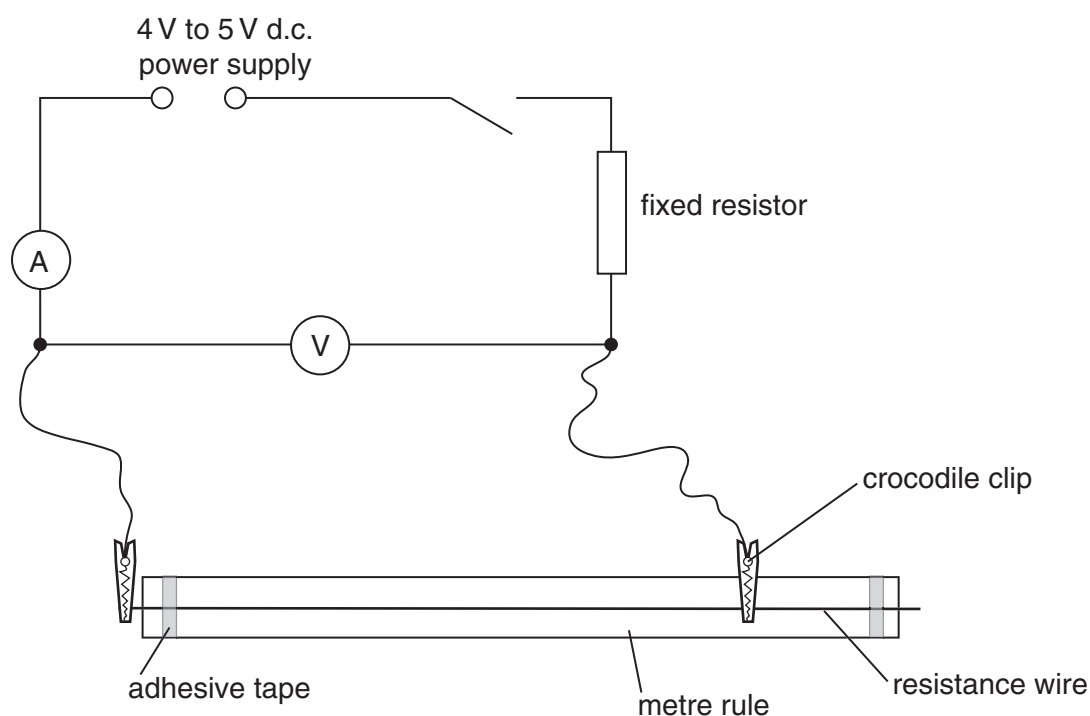

Fig. 4.1
- (vi) The Supervisor should set up the circuit as shown in Fig. 4.1.
- (vii) At the changeover, the Supervisor should check that the circuit is still set up as shown in Fig. 4.1 with the switch open.